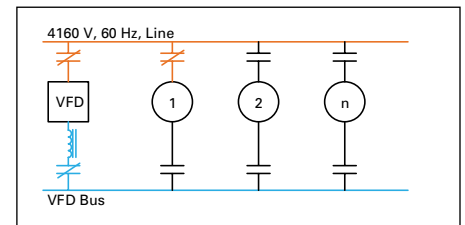

Figure 10.4-17. VFD Transfers Motor #1
- PLC opens motor select contactor (**Figure 10.4-17**)
See Figure 10.4-17